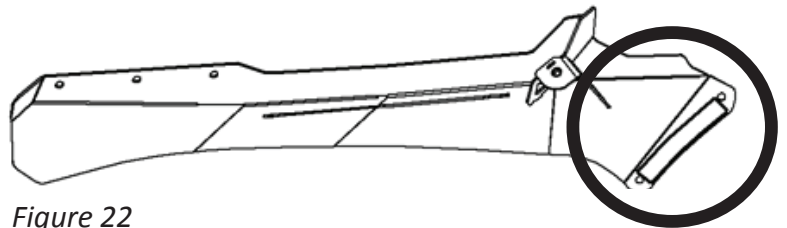

Figure 22
22. Using the provided 1" wide neoprene rubber strip (61724), cut and install the one (1) strip to the inside of both arms (21830,21831) at 6" long. (Figure 22)